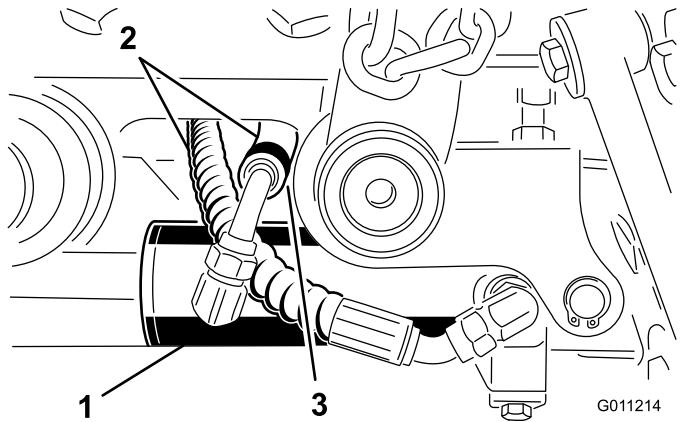

Figure 13
6. Secure the right end of the lift cylinder to the right lift arm with a pin and 2 spacers (Figure 13). Secure it with a retaining ring.
Note: With the lift arms fully raised, the hoses should be routed as shown in Figure 13 and clear the lift arm by 0.04 to 0.12 inch (1 to 3 mm).